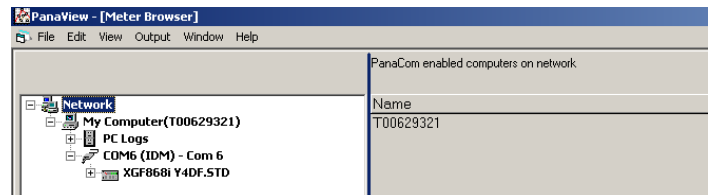

Figure 3: Text display window
3. Using the window menu, arrange the open windows in the desired format. For this discussion, **Figure 3** below shows the *text display* window in its maximized (full-screen) size.
NOTE: **Figure 3** above has been compressed both vertically and horizontally for improved clarity.
5. Before actual data values can be displayed in the text pane, activate one of the following data collection modes (refer to **Figure 3** on page 24):